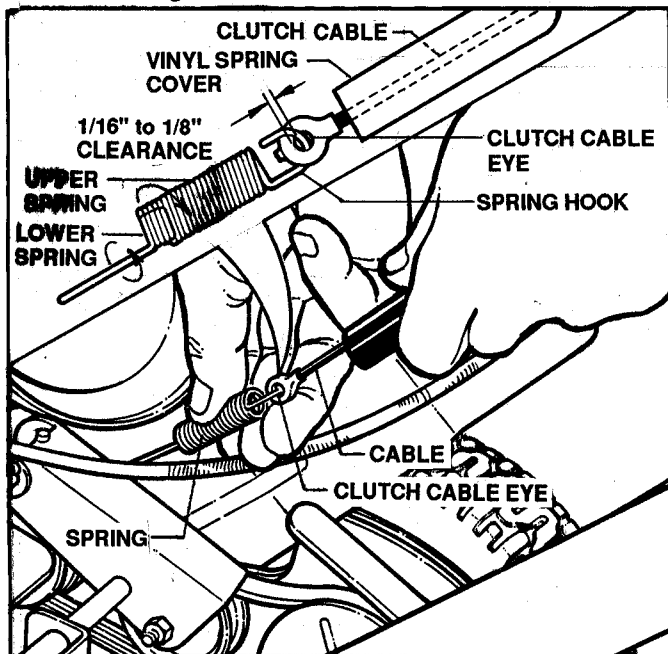

FIGURE 3.9
- A. The wheel drive control is properly adjusted when there is 1/16" to 1/8" clearance between the inside of the spring hook and the inside of the clutch cable eye with the wheel drive control released. See Figure 3.9.